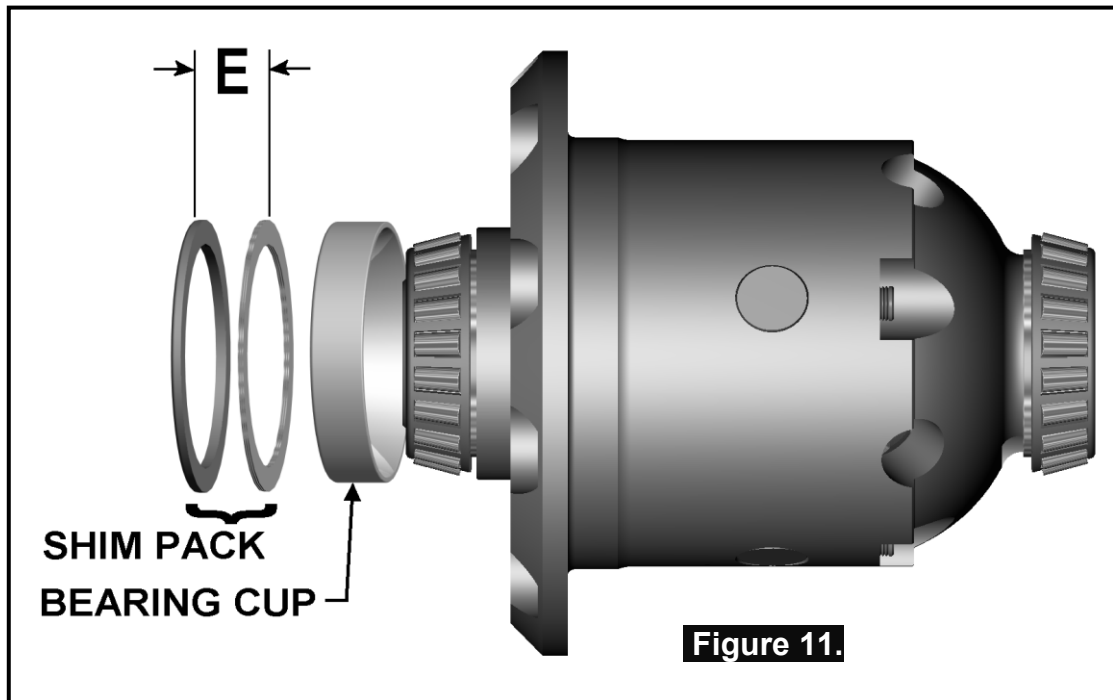

Figure 11.
In order to pre-load the tapered roller bearings in your *Air Locker*, measurements need to be taken so that a value can be calculated for the shim thickness 'E' in Figure 11.
- Add the specified pre-load amount to the measurement taken with the feeler gauge to determine a shim amount for 'E' in Figure 11.
- Install shim pack 'E' to the flange cap side (left hand side) between the axle housing and the bearing cup as shown in Figure 11.
- To decrease the amount of backlash, reduce the shim thickness 'D' (Fig. 7.) and increase the shim thickness 'E' (Fig. 11.) by the same amount. Reverse this step to increase the backlash.